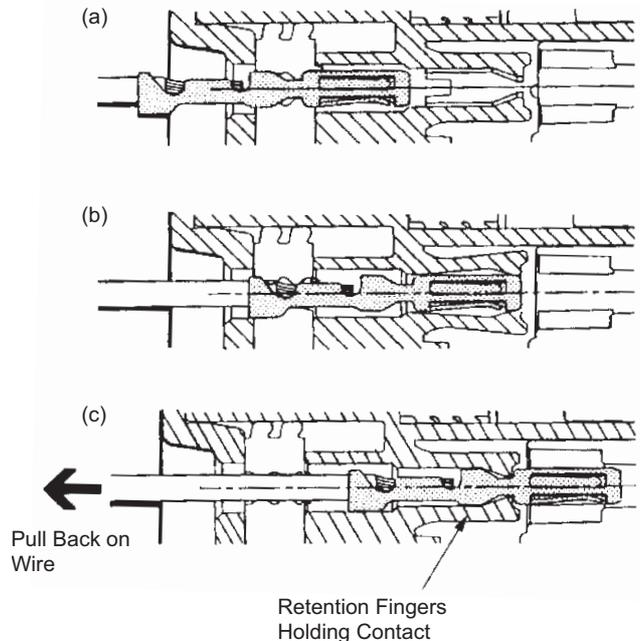

Figure 2
- To insert a contact, push it straight into the appropriate circuit cavity as far as it will go (see Figure 2).
- Pull back on the contact wire with a force of about 4 to 9 Newtons (1 or 2 pounds) to be sure the retention fingers are holding the contact (see Figure 2).